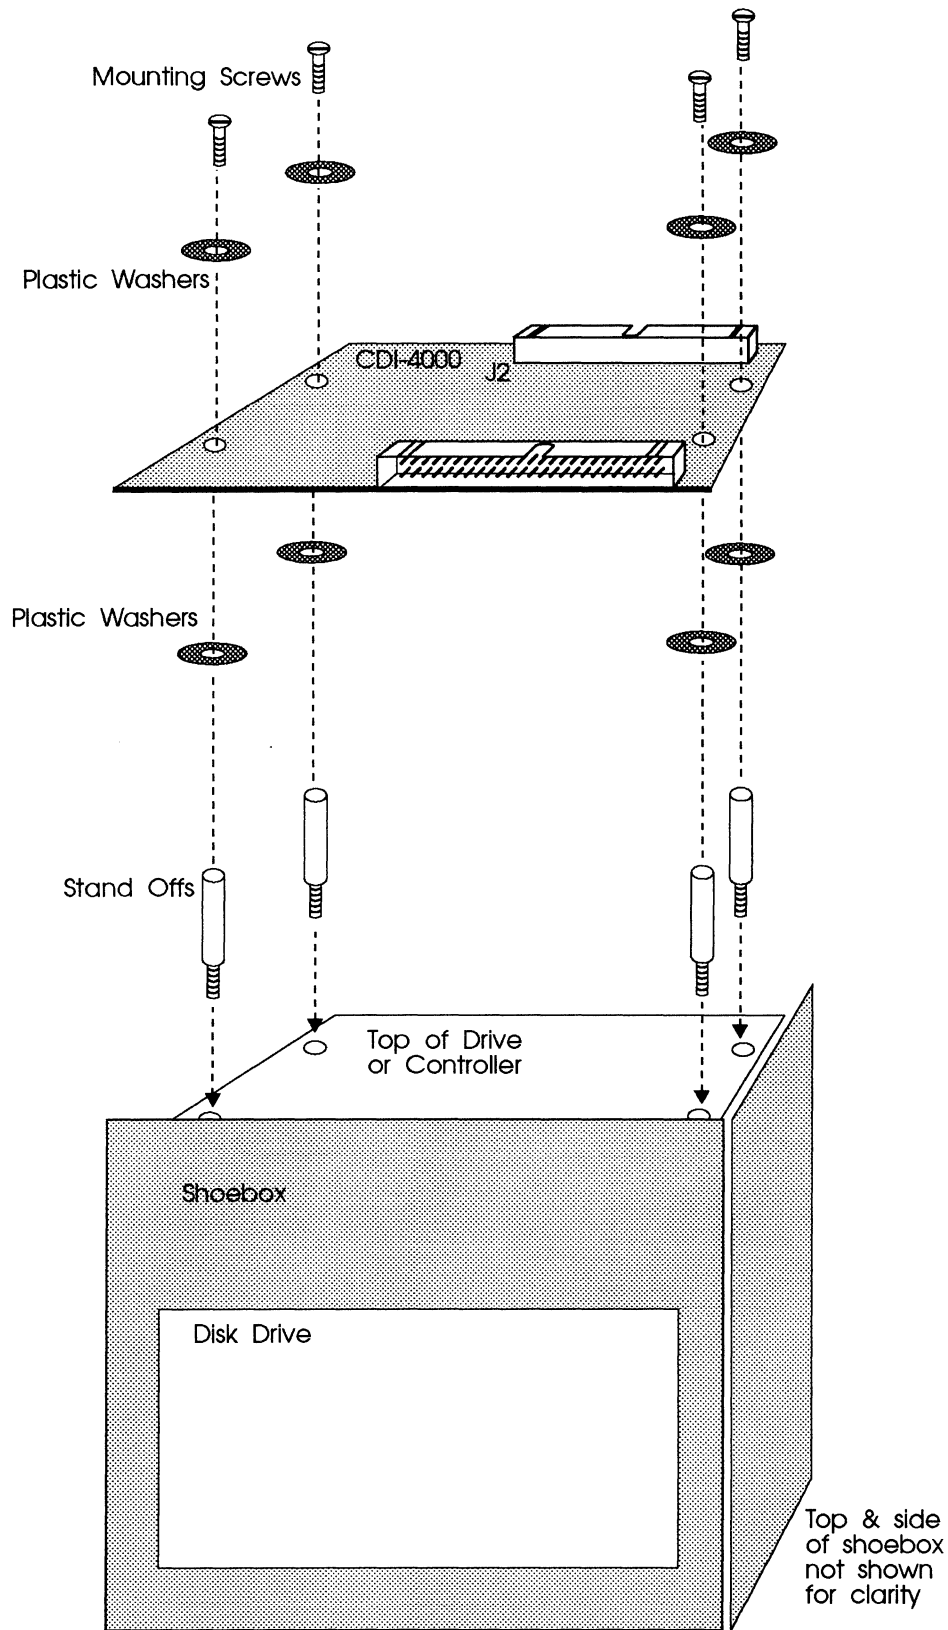

Figure 3-6: Shoebox installation example
- 1 Carefully install the CDI-4000 into an assigned slot inside a storage box, shoebox, or system, see Figure 3-6 as an example.
- ❶ **Make sure the CDI-4000 or any of its components are NOT directly touching metal surfaces. Attach plastic washers as specified in the drawing.**
- ❷ **Make sure there is proper ventilation in the storage unit.**